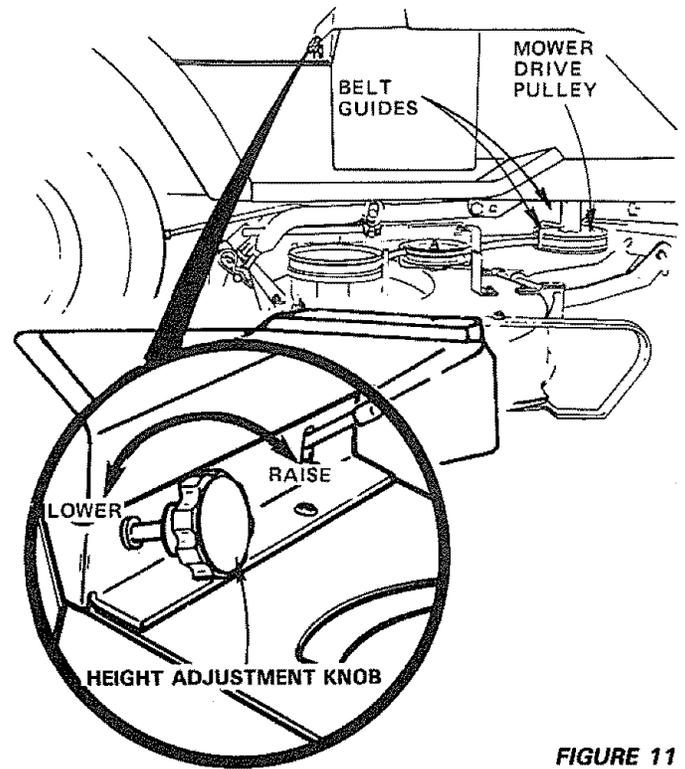

FIGURE 11
- Turn height adjustment knob to lowest position (Fig. 11).
- Roll belt over mower drive pulley. Make sure belt is inside belt guides (Fig. 11). See mower belt installation decal on mower housing.